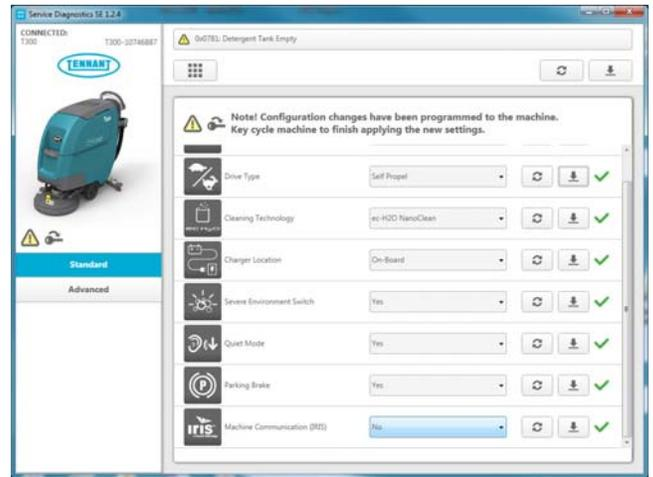

Fig. 13
- Check and correct the installed options (Figure 13). Then press the down arrow button to program the machine. A green check will appear next to the down arrow button when programmed.